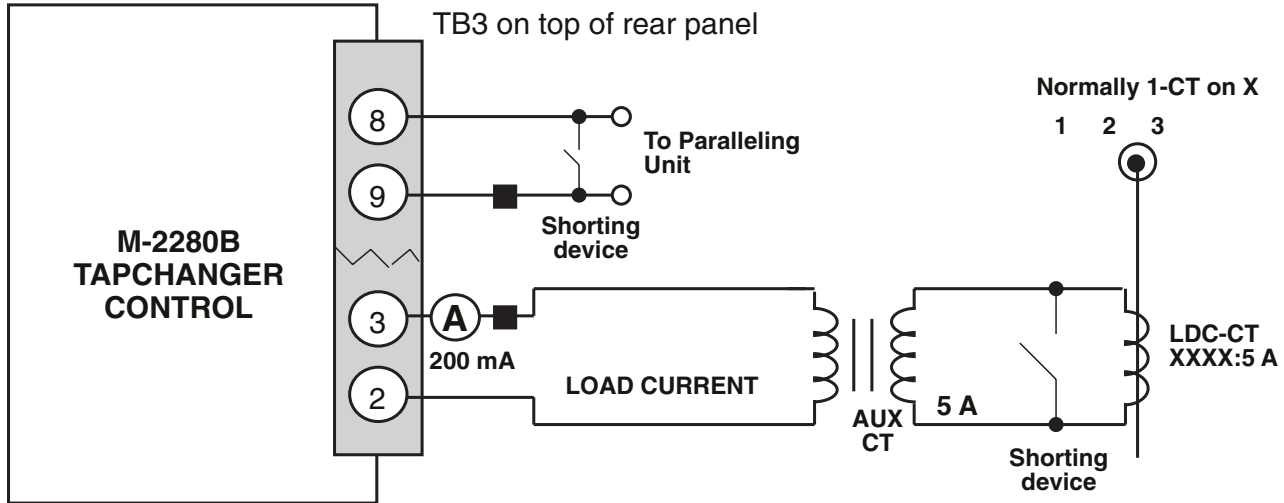

Figure 12 Setup for Current Checkout Procedure
5. As shown in Figure 12 temporarily place a shorting device across the LDC-CT secondary to short the line drop compensator circuit, and place another shorting device across TB3-8 and TB3-9 to short the circulating current paralleling input, for the load current check. Insert an ammeter between the polarity input and TB3-3. Open the load current shorting device and with a known load on the transformer or regulator, measure the current in the load current circuit to ensure that this current is correct for 0.2 A full load.